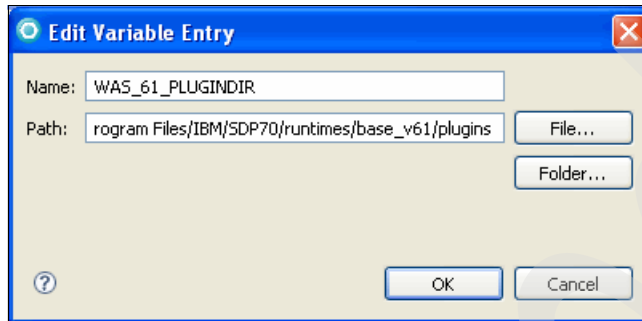

Figure 9-10 Edit Variable Entry window
5. In the Edit Variable Entry window (Figure 9-10), for Name of the new variable, type WAS_61_PLUGINDIR. For Path, specify the directory that contains the com.ibm.events.clients_6.1.0.jar. In our sample, we type D:\Program Files\IBM\SDP70\runtimes\base_v61\plugins. Click **OK**.